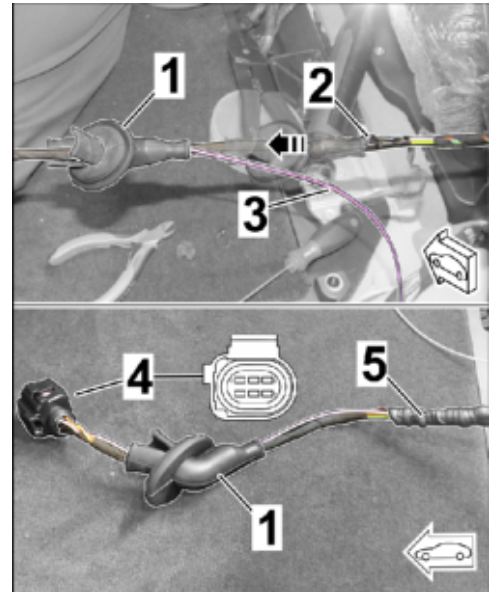

Figure 9
2.1.1 Tail light area, right (see also wiring diagram 12.2 – Vehicle exterior lighting, sheet 2) ⇒ *Figure 9*
- Carefully loosen the installed grommet on the branch (wire harness) and slide it towards the connector (6-pin). ⇒ *Figure 9 -Top, arrow-*
- Carefully install grommet with some sealing compound at the old position (⇒ *Figure 9 -5-*).